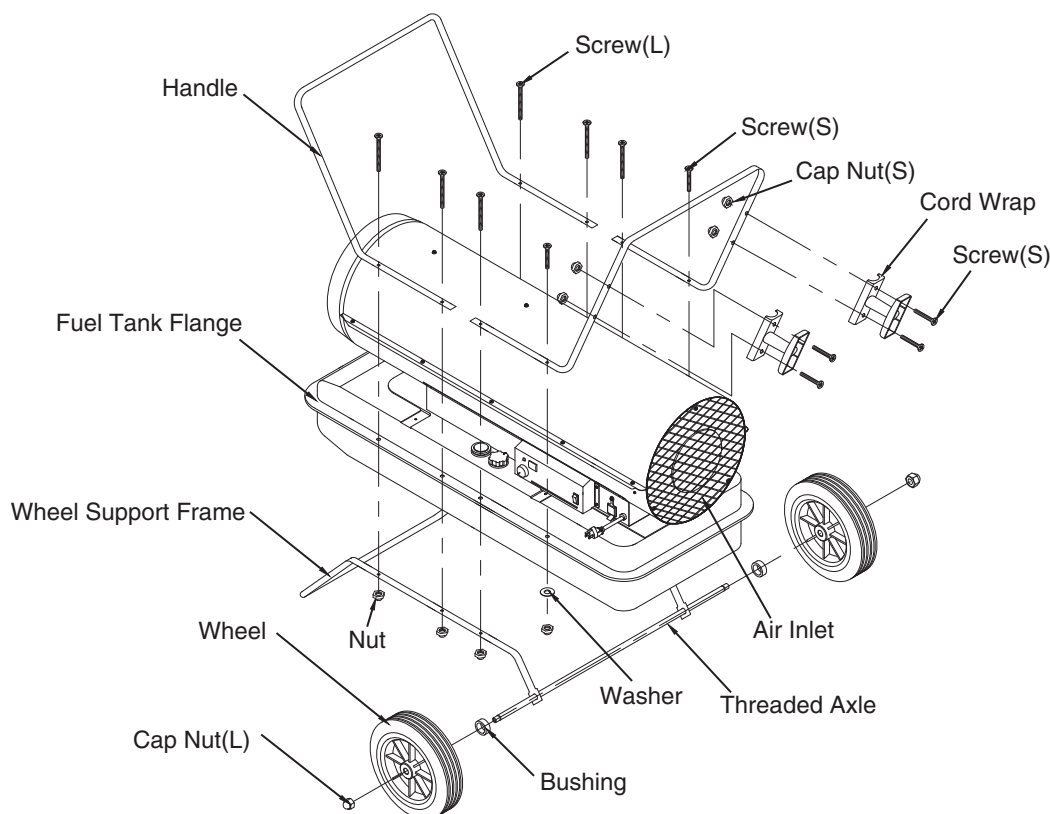

Figure 3. Assembling Handle & Wheel and Cord wrap
- 3) Place heater on wheel support frame. Make sure air inlet end (rear) of heater is over wheels. Align the holes on fuel tank flange. Insert screws(L) through handles (front and Rear), fuel tank flange, and wheel support frame. Insert screws(S) through rear handle, fuel tank flange, and washer(S) as shown in figure 3 and attach nut finger tight after each screw is inserted.
- 6) Insert screws through cord wrap, rear handle as shown in Figure 3 and attach nut finger tight after each screw is inserted.